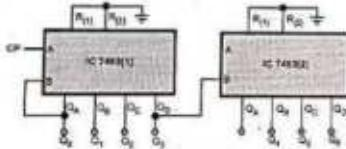

Fig. 5.12.9 Divide-by-128 counter
- The circuit diagram is as shown in the Fig. 5.12.9.